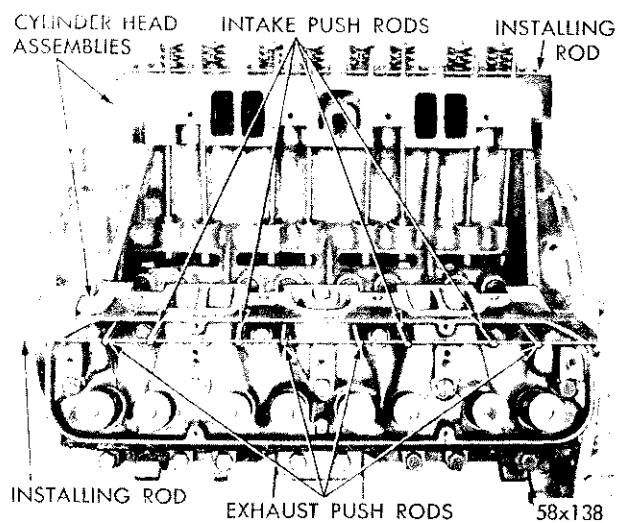

Fig. 11—Push Rods Installed
(5) Inspect push rods and replace worn or bent rods.
(6) Install push rods with the small ends in tappets maintaining alignment using rod, as shown in Figure 11.